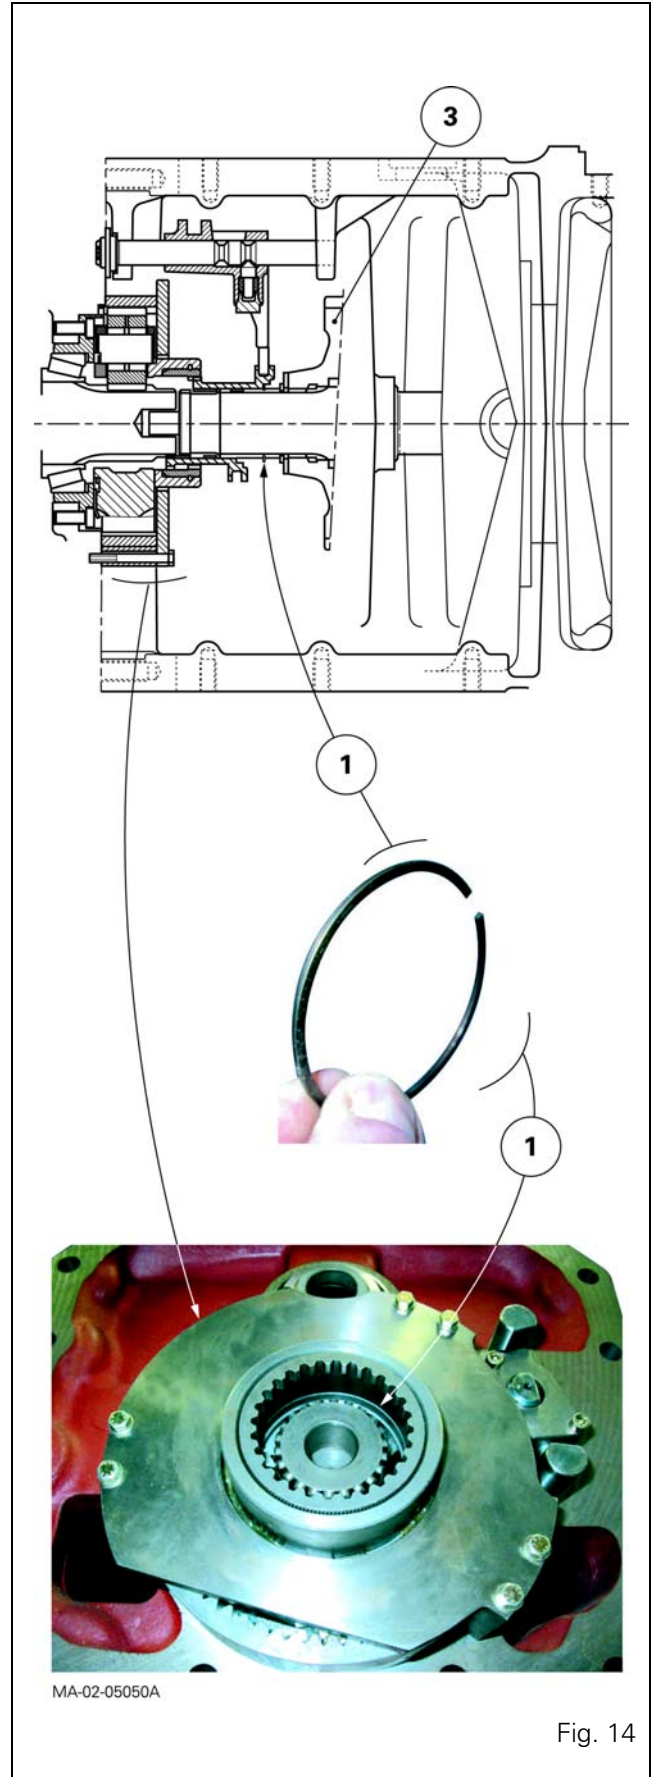

Fig. 14
- The presence of locking rings (1) on the drive pinion and the gearbox output shaft (Fig. 14).